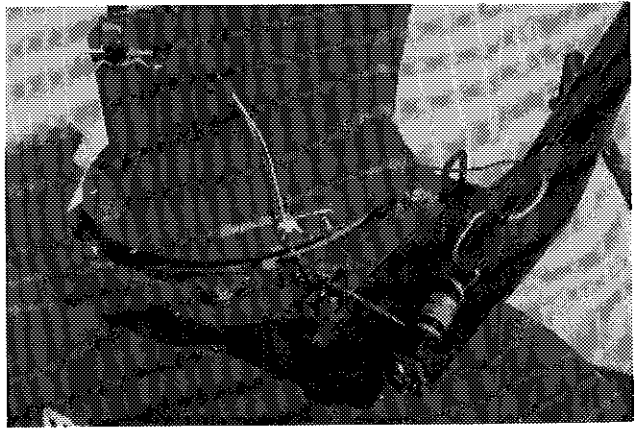

Figure 22
- 5) **Figure 22:** Insert cable in the free anchor hole and secure both cables with the clamp provided.